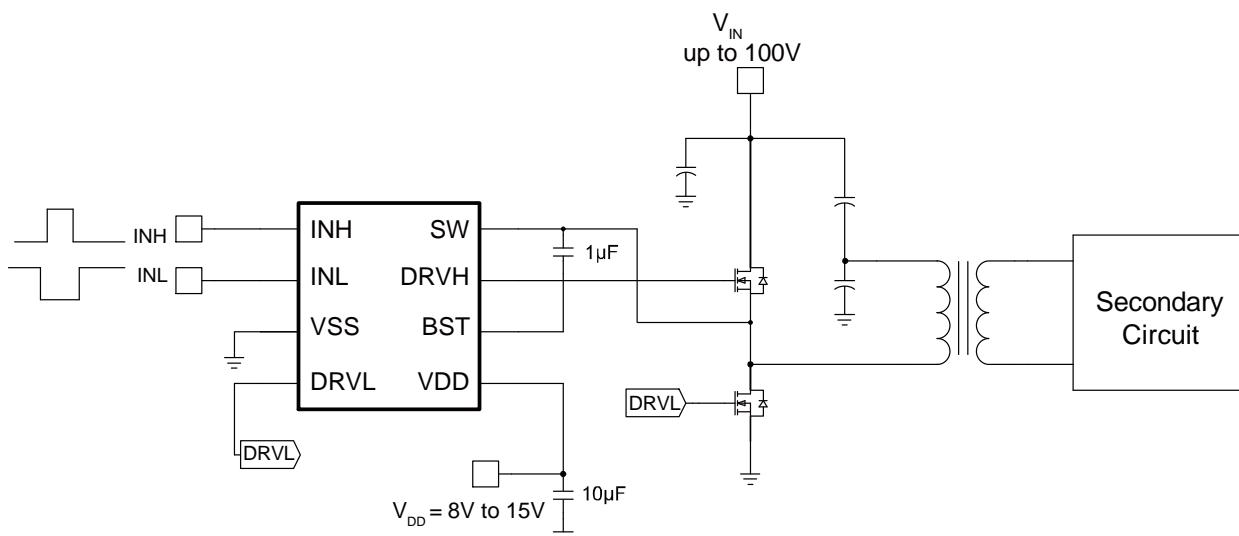

Figure 5: Typical Application Circuit (Half-Bridge Converter Topology)
In a half-bridge converter topology, the high-side MOSFET (HS-FET) and low-side MOSFET (LS-FET) are driven alternately with a dead time (DT) inserted between their respective on periods. INT and INL are driven with alternating signals via the pulse-width modulation (PWM) controller. The input voltage ( $V_{IN}$ ) can rise up to 100V when in a half-bridge topology (see Figure 5 in the Typical Application Circuits section on page 13).